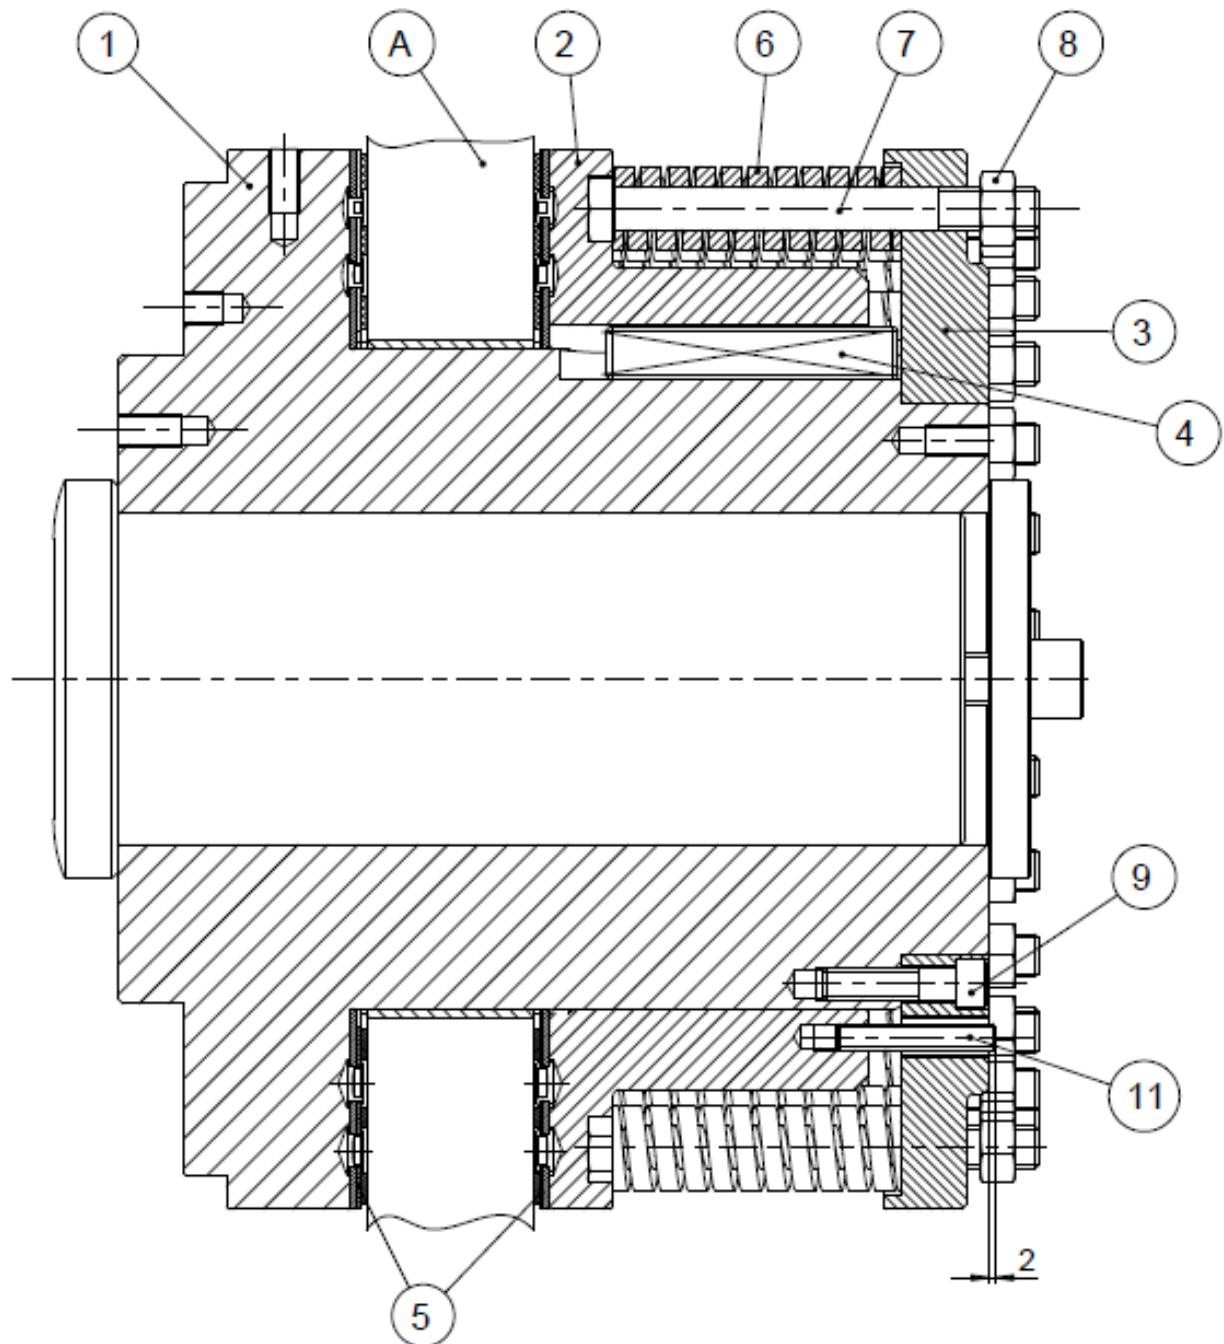

Figure 2.1 Illustration of friction torque limiter RSHD 310 – 600 Version E
The complete friction torque limiter is pushed up onto the shaft. After this the friction torque limiter must be secured axially with an end plate, which is held by screw(s). Optionally it can be secured with a threaded pin, radially clamping (12). Both options are shown in Figures 2.1 and 2.2 in Chapter 2.3.